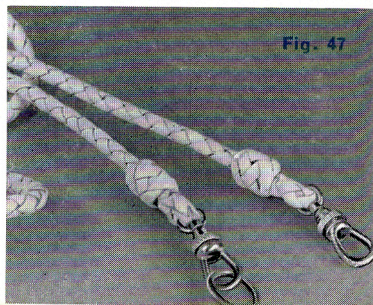

Fig. 47
m) „Suswit” carrying strap: (Fig. 47) this carrying strap will prove extremely useful when using the camera without its ever-ready case. The ALPA carrying strap is made of plaited leather and is supplied with carabiner-pattern spring fasteners; its length is adjustable. The normal pattern is white and will not mark clothing by rubbing against it. A black carrying strap (Codeword: Susblak) is also available but is supplied without any